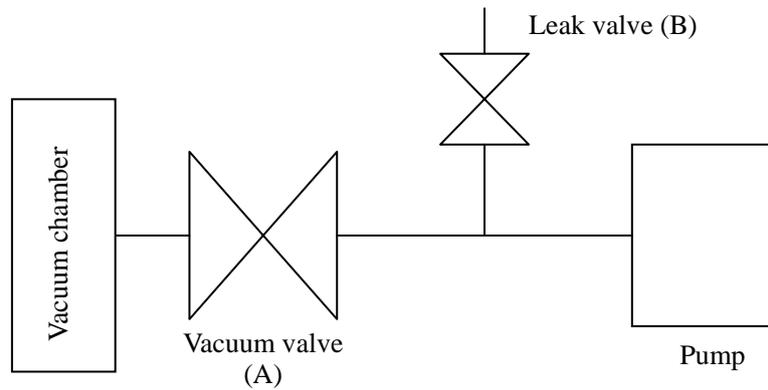

Fig. 4 Basic piping diagram to the vacuum chamber
- (2) Mount vacuum valve (A) and leak valve (B) between the vacuum chamber and pump as shown in Fig. 4.
- ① In the process of manufacturing semiconductors, pump oil may deteriorate over a very short period of time. It is recommended that the pump oil should be replaced within 10 days after starting use of the pump, and the replacement frequency of the pump oil should be decided based on the contamination level of the pump oil.
- ② If the pump evacuate a lot of moisture, replace the oil frequently. If the pump is used with gas which contains a lot of moisture, water absorption expands the vanes of the pump, the lubricity of the pump oil deteriorates and corrosion of the pump's components advance, causing the pump to malfunction.
- ③ If chemicals including acid has been evacuated, the pump may become rusty while it is not being operated (i.e. overnight), making operation impossible. If such chemicals are evacuated, replace the pump oil immediately.
- ④ Solvents which deteriorate the lubricity of the pump oil will cause scoring, etc. If such a solvent is evacuated, replace the oil.
- ⑤ If operation is performed continuously at a high evacuation pressure of 10 kPa or more, a large amount of pump oil is consumed, causing a shortage of oil and insufficient lubrication of the pump. If such a condition continues, components will rapidly wear and become scored. Avoid continuous operation at a high evacuation pressure as much as possible and, without fail, add pump oil.
- ⑥ Do not block the flow of air to the motor fan as the temperature of the motor and pump will increase.
To start operation, close leak valve (B), open vacuum valve (A) to the inlet port, and turn on the power switch. Then the pump starts being to exhaust (see Fig. 4).
To stop operation, close vacuum valve (A), open leak valve (B) quickly, and turn the power switch off (see Fig. 4).